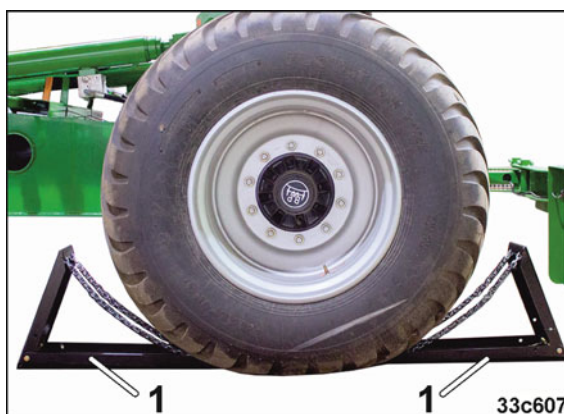

Fig. 107
1. Verify that the implement is secured with wheel chocks (Fig. 107/1).